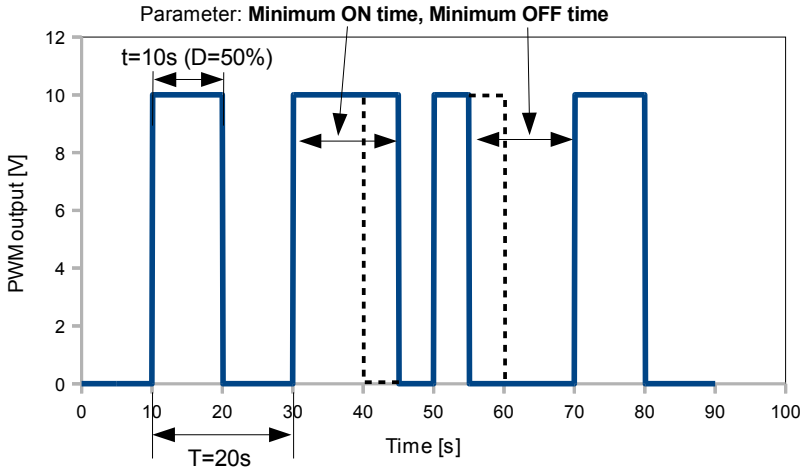

Fig. 7.93. Sample of output signal of SSR relay in PWM mode
- **Minimum ON time** - minimum duration of a high state (after switching to a high state, switching back is possible after **Minimum ON time**), see Fig. 7.93,
- **Minimum OFF time** - minimum duration of a low state (after switching to a low state, switching back is possible after **Minimum OFF time**), see Fig. 7.93,